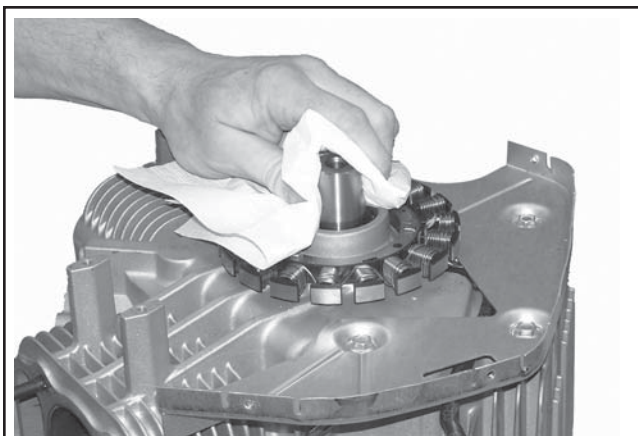

Figure 10-19. Clean and Dry Taper of Crankshaft.
**NOTE:** Before installing the flywheel, make sure the crankshaft taper and flywheel hub are clean, dry, and completely free of any lubricants. The presence of lubricants can cause the flywheel to be over stressed and damaged when the hex flange screw is torqued to specifications. See Figures 10-19 and 10-20.